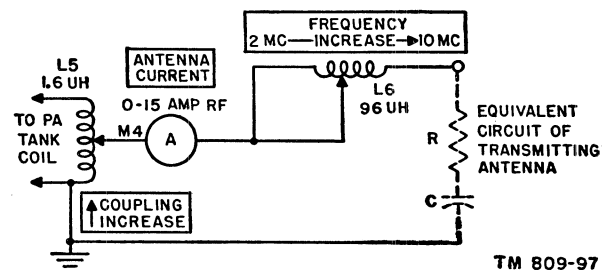

Figure 43. Antenna tuning unit BC-939-B with range switch in 2-10 M-C position, schematic diagram.
b. Figure 43 is a functional schematic diagram